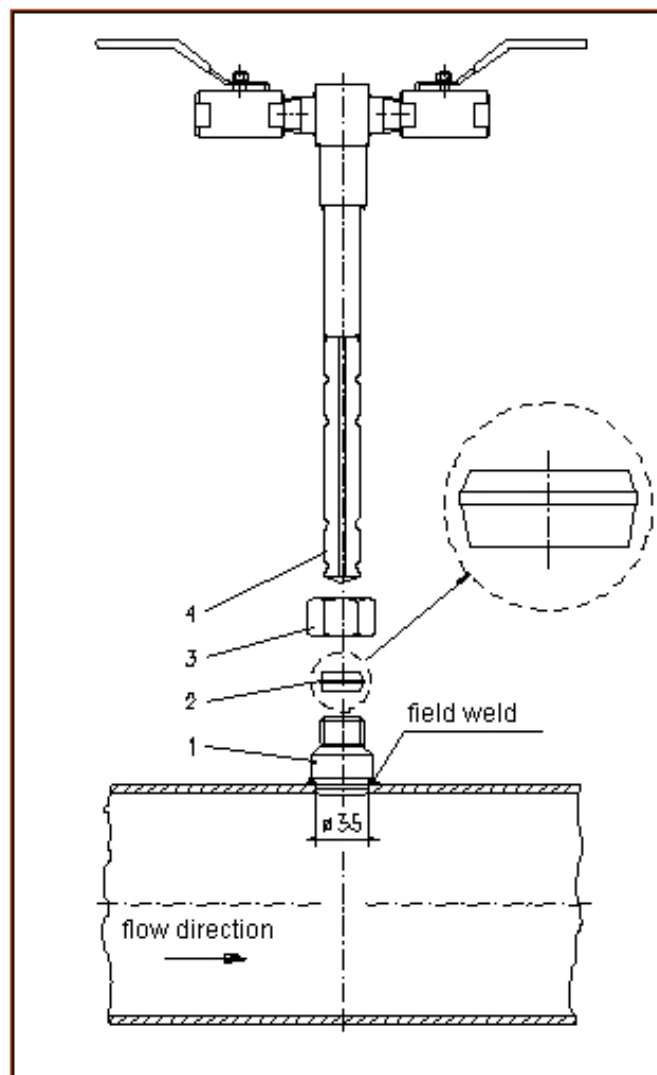

fig 8 Installation of an IBR without end support
2. Before welding, remove the cutting ring (2) from the weld socket (1) in order to protect it from thermal stresses which are generated by welding process. The pressure nut (3) remains threaded onto the weld socket during installation (compare Fig. 8 (page 13)), to prevent damage of the thread.
5. Now the Itabar-Sensor can be installed into the pipe. Remove the pressure nut (3) from the weld socket (1) and slip it over the sensor tip (4). Slip the cutting ring (2) over the sensor tip also (The smaller half points upwards!). Then insert the sensor tip together with the pressure nut and the cutting ring into the weld socket until the sensor tip touches the opposite pipe wall.